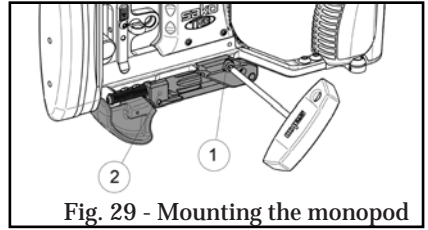

Fig. 29 - Mounting the monopod
3. Make sure that the fastening screw (1, Fig. 29) is sufficiently loosened. Then, attach the monopod (2) to the front part of the picatinny rail as illustrated.
4. Tighten the fastening screw (1) with a Torx T25 screwdriver.